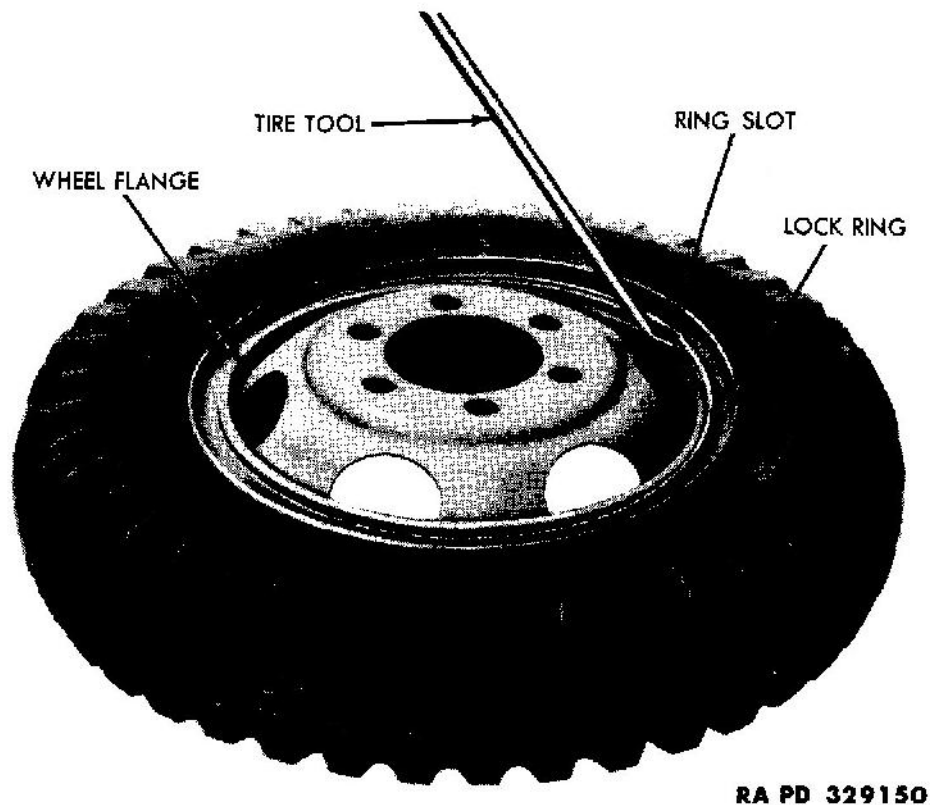

Figure 69 – Removing Tire Lock Ring
a. **Removal.** Remove the wheel from the hub (par. 126). Let the air out of the tire by removing the valve core. It is very important that all the air is let out of the tire to prevent the possibility of the rim flying off during the removal procedure. Place the combination jack handle and tire tool which is furnished with the vehicle in the slot in the ring as shown in figure 69. Press down on the side of the lock ring directly across the wheel from the ring slot, and pry upward with the tire tool. Continue prying on the lock ring until the ring is forced over